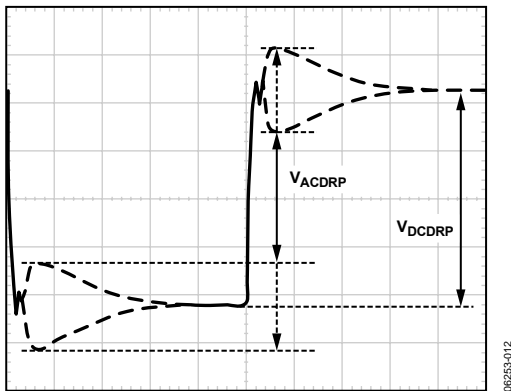

Figure 15. AC Load Line Waveform
- Measure the output waveform (use dc offset on scope to see the waveform). Try to use a vertical scale of 100 mV/div or finer. This waveform should look similar to Figure 15.
- Use the horizontal cursors to measure V_{ACDRP} and V_{DCDRP} as shown in Figure 15. Do not measure the undershoot or overshoot that happens immediately after this step.
- $$C_{CS(NEW)} = C_{CS(OLD)} \times \frac{V_{ACDRP}}{V_{DCDRP}} \quad (44)$$